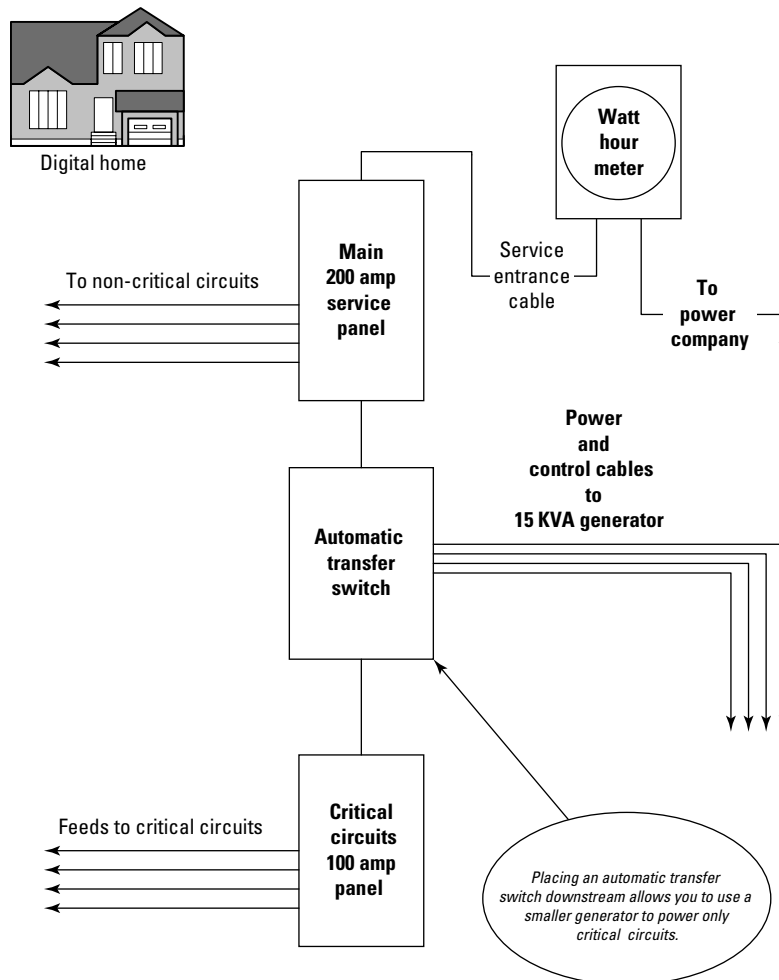

Figure 15-3: This switch installation automatically transfers power to critical circuits.
- **Circuit-specific:** This type of switch installation, shown in Figure 15-3, usually switches power to a separate standby panel when the normal power goes out. The standby panel has circuits for some critical loads, but not for the whole house.